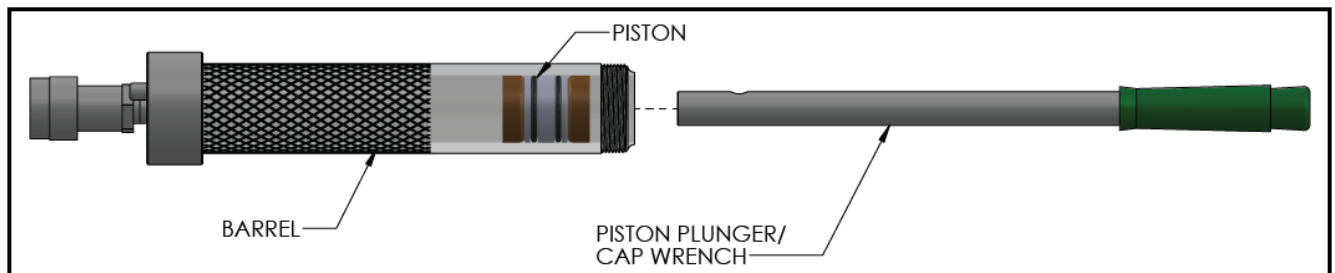

Figure 7
- 2.) To insert sealant into a sealant barrel, make sure the piston is at the bottom of the barrel. Figure 7 shows how to push the piston in. The connected hydraulic pump needs to be in the release position to allow oil to flow back into the pump. The piston is a very tight fit. A hammer may be needed to drive the piston back. If the supplied piston plunger is lost, a piece of pipe or handle of a hammer may be used to drive the piston back.